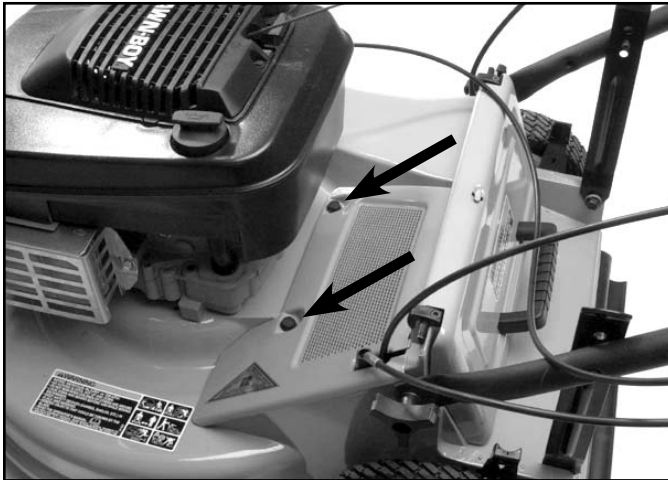

Fig 262
1. Remove the two flanged head self-tapping screws securing the screen panel to the housing and remove the screen panel (Fig. 262).